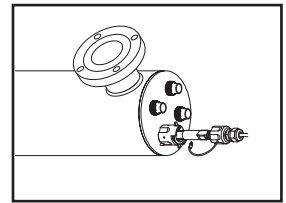
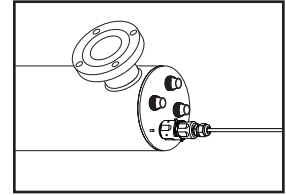

FIGURE 2D
FIGURE 2E
is fully seated onto the UV lamp (Figure 2D).
- Once the lamp is fully seated on the connector, slide the connector up to the retaining nut. Once the connector is located fully against the retaining nut, slide the metal ring back in to lock the connector in place (Figure 2E). As this connector is keyed to the reactor chamber, make sure the notch on the connector (Figure 2D) is located over the ground lug located on the reactor chamber.